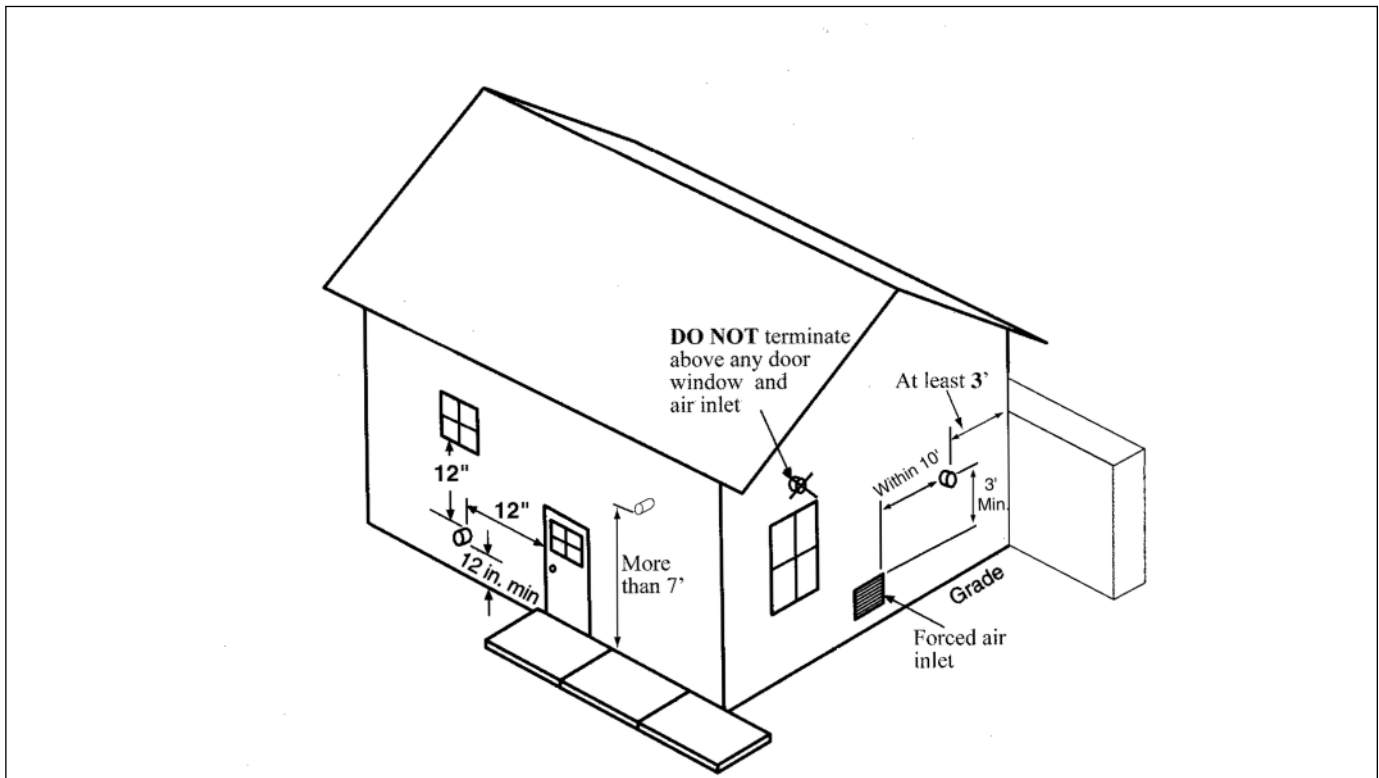

Fig. 2: Termination Clearances of Direct Vent System
6. The vent termination must also maintain the following clearances; as shown in Fig.2.
6. The vent termination must also maintain the following clearances; as shown in Fig. 2 on page 15.